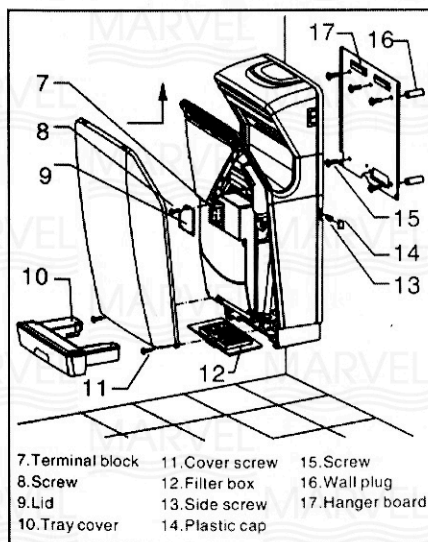

fig.2
3. Remove and retain 2 side screws, 2 plastic caps and hanger board (see fig.2).
5. Remove and retain tray, 2 cover screws and cover (see fig.2).
7. Connect power cord to terminal block where indicated (see fig.2).